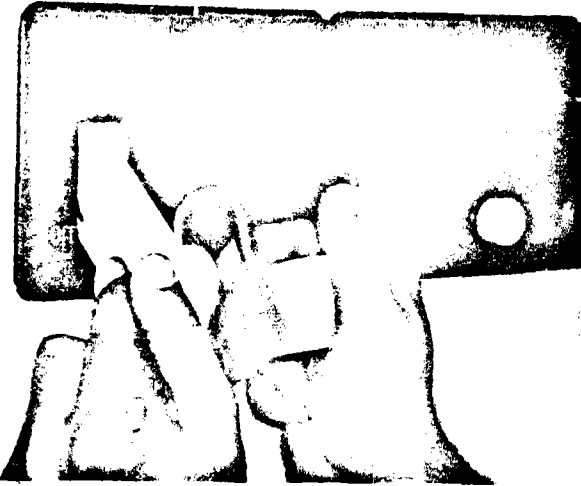

Figure 9
10. To positively lock the operating mechanism in the "OFF" position and to prevent the door opening, a metal locking bar recessed in the handle may be extended and padlocked with from one to three padlocks. See Figure 9.